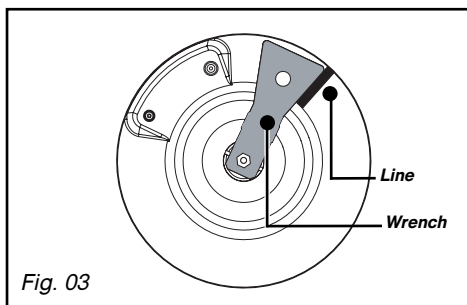

Fig. 03
In an existing system, a flexible pipe fitted with hose clips (compliant with the XP D 36-110 standard) with a 5-year guarantee may be used. In this case an adaptor must be used and a sealing washer must be inserted between the adaptor and the elbow joint (Fig. 03).
- Draw a line on the burner plate using a pencil, as shown (Fig. 03).
(Fig. 03)